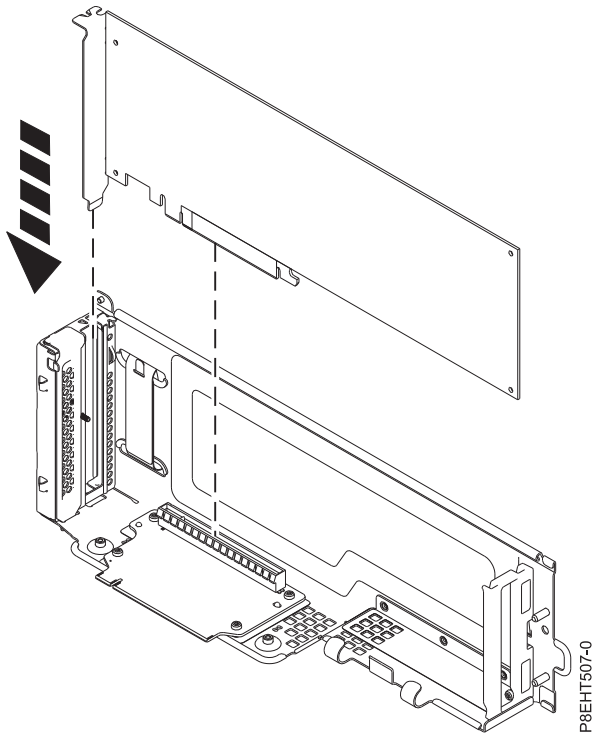

Figure 42. Inserting PCIe card into PCIe riser
2. Insert the replacement PCIe adapter into the PCIe riser, aligning it properly and inserting it fully into the slot. See Figure 42 on page 42.